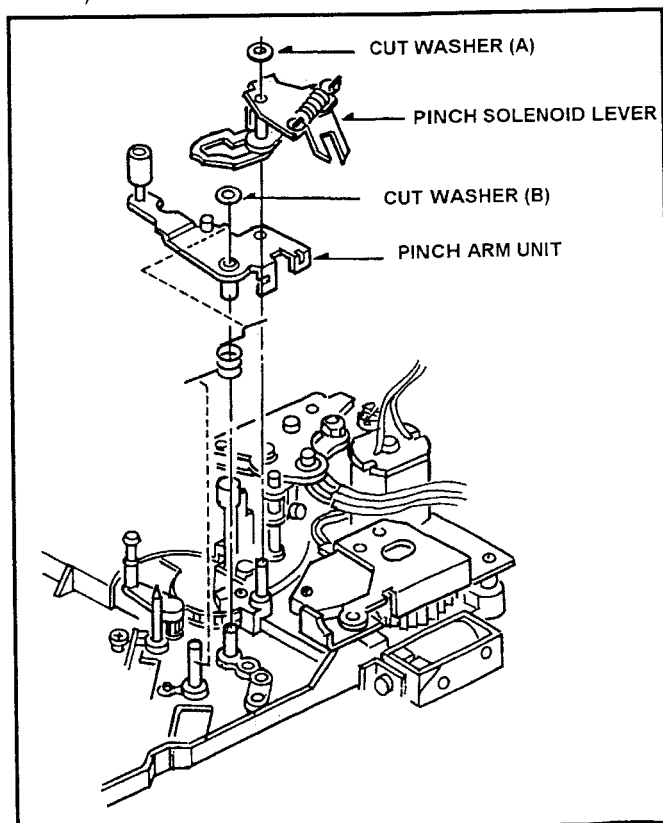

Fig. 6-5-1 Removal of Pinch Arm Unit
6. Remove the Pinch Solenoid Unit (Refer to item 6-9, then hang off the Pinch Solenoid Lever as shown in Figure 6-5-1).
7. Remove the cut washer (A) and remove the Pinch Solenoid Lever as shown in Figure 6-5-1.
8. Remove the cut washer (B) and remove the Pinch Arm Unit as shown in Figure 6-5-1.